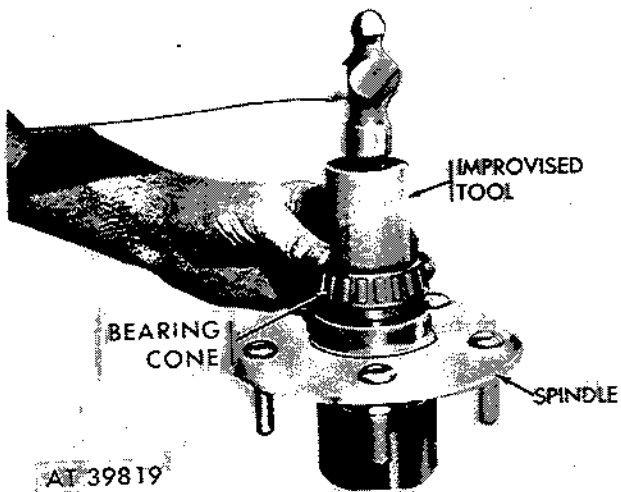

Figure 2-322. Install outer bearing on spindle.
(4) Pack bearing and cone with grease (GAA). Install outer bearing on spindle with improvised tool as shown in figure 2-322.
(5) Install drive flange (para 2-139) and spindle (para 2-138). Adjust wheel bearings (para 2-143).
(4) Remove three bolts, and locknuts securing upper ball joint to suspension arm and remove suspension arm (fig. 2-322).